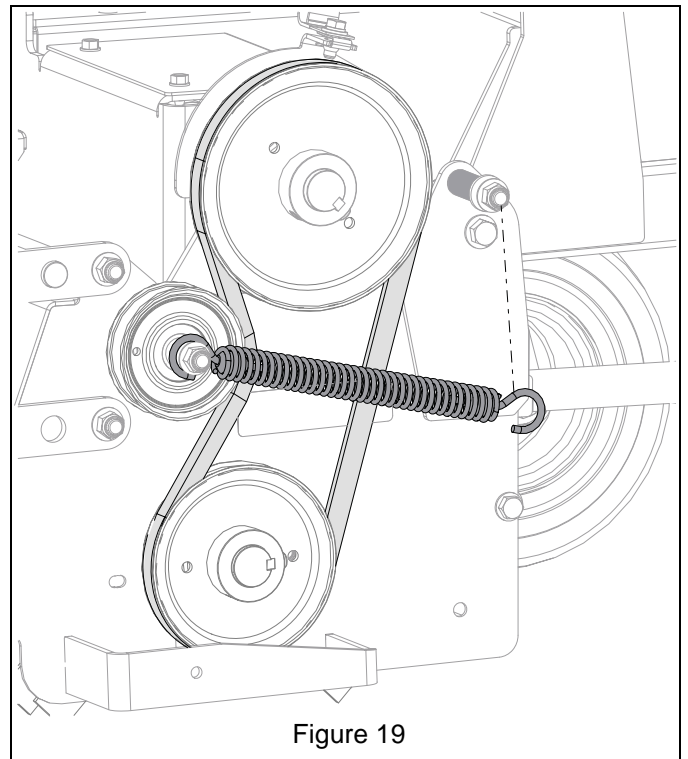

Figure 19
9. Connect idler spring to anchor. See Figure 19.